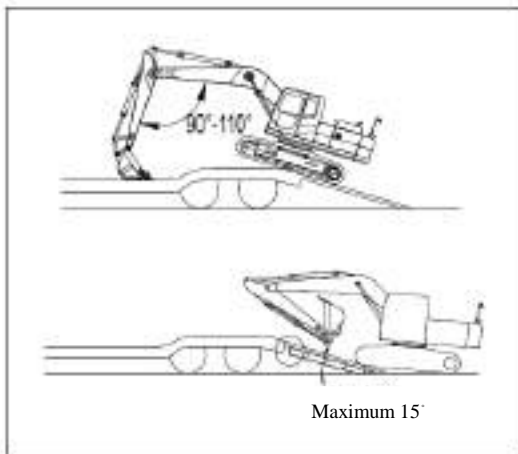

Figure 6-3 Precautions for loading (II)
f). Align the traveling direction with the ramp and travel slowly. Try to lower down the working device without causing any impact. When the machine is on the ramp, you can only operate the traveling lever and any other lever or pedal cannot be operated (Figure 6-3).